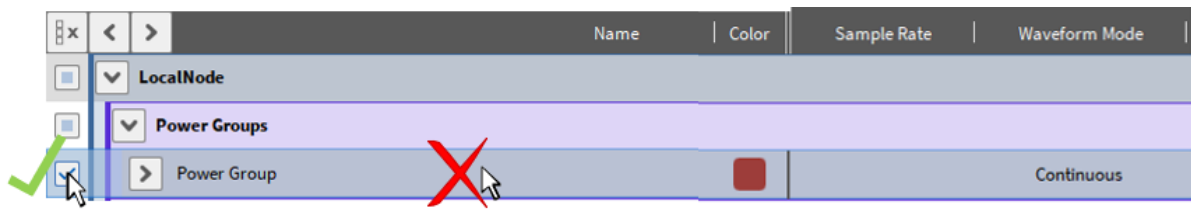

Fig. 9.45: Changing Waveform Mode for a whole Power Group
**Note:** In case the Waveform Mode of a whole Power Group (all parameters within the Power Group) wants to be changed, the checkbox of the Power Group has to be specifically selected before changing the Waveform Mode (see Fig. 9.45). If only the row of the channel is clicked on, the Mode does not change for the individual Power channels. Of course, all the parameters of the Power Group can also be set to an individual Waveform Mode.